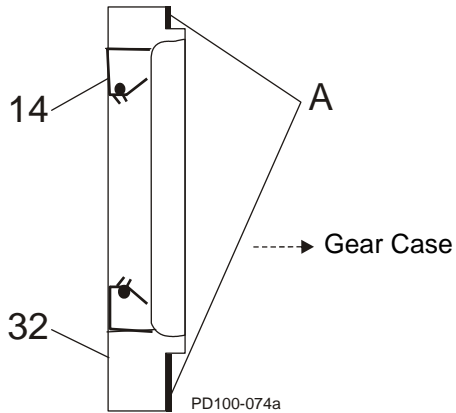

Figure 55 - Install Bearing Retainer
18. Coat the retainer flanges with silicone sealant (Figure 55, item A). (Gore-Tex[®] sealing tape can be used on silicone-free models.) The grease seal (item 14) should be flush with the front of the bearing retainer. On the 030 models, the grease seal is positioned against the step on the inside diameter of the retainer.
19. Install the bearing retainers (Figure 55, item 32).